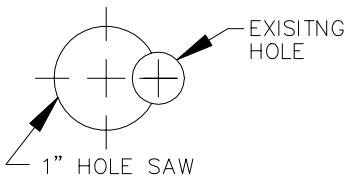

FIGURE 1
ENLARGE HOLE (SEE FIG. 1)
4. USING 1" DIA. HOLE SAW ENLARGE EXISTING HOLE ON PASSENGER'S SIDE OF FRAME AS SHOWN IN FIG. 1.